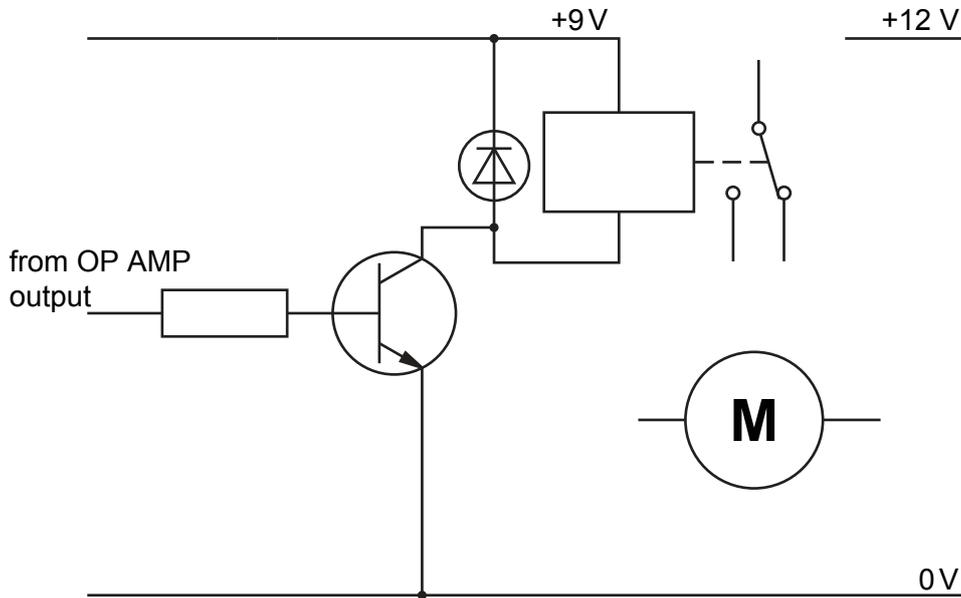

Fig. 12.4
- (vi) Fig. 12.4 shows an incomplete circuit diagram for the output part of the circuit. Add connections that will allow the relay to operate the cooling fan when the output from the OP AMP goes high. The 9V and 12V supplies use a common 0V connection.